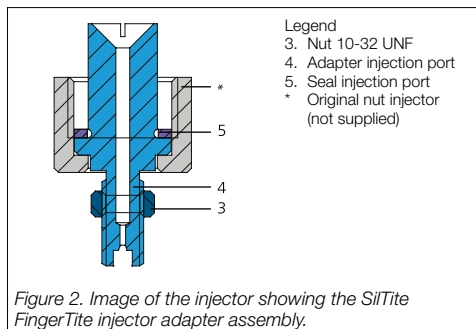

Figure 2. Image of the injector showing the SiTite FingerTite injector adapter assembly.
5. Locate the adapter injection port (4), seal (5) and assemble as displayed in Figure 2.
7. Replace thermal insulator using nut (3).